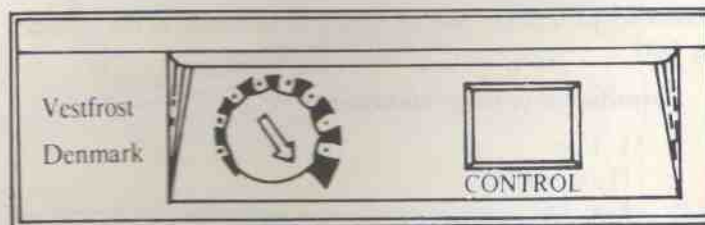

Fig. 13
7. Turn the thermostat knob by means of a coin to the right (clockwise) to maximum position (Fig: 13). Allow the ILR to run continuously without any vaccine in it. Observe the cabinet temperature time to time.